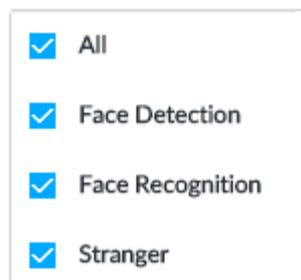

Figure 4-9
- Click  to filter the Ai detection mode. See Figure 4-9